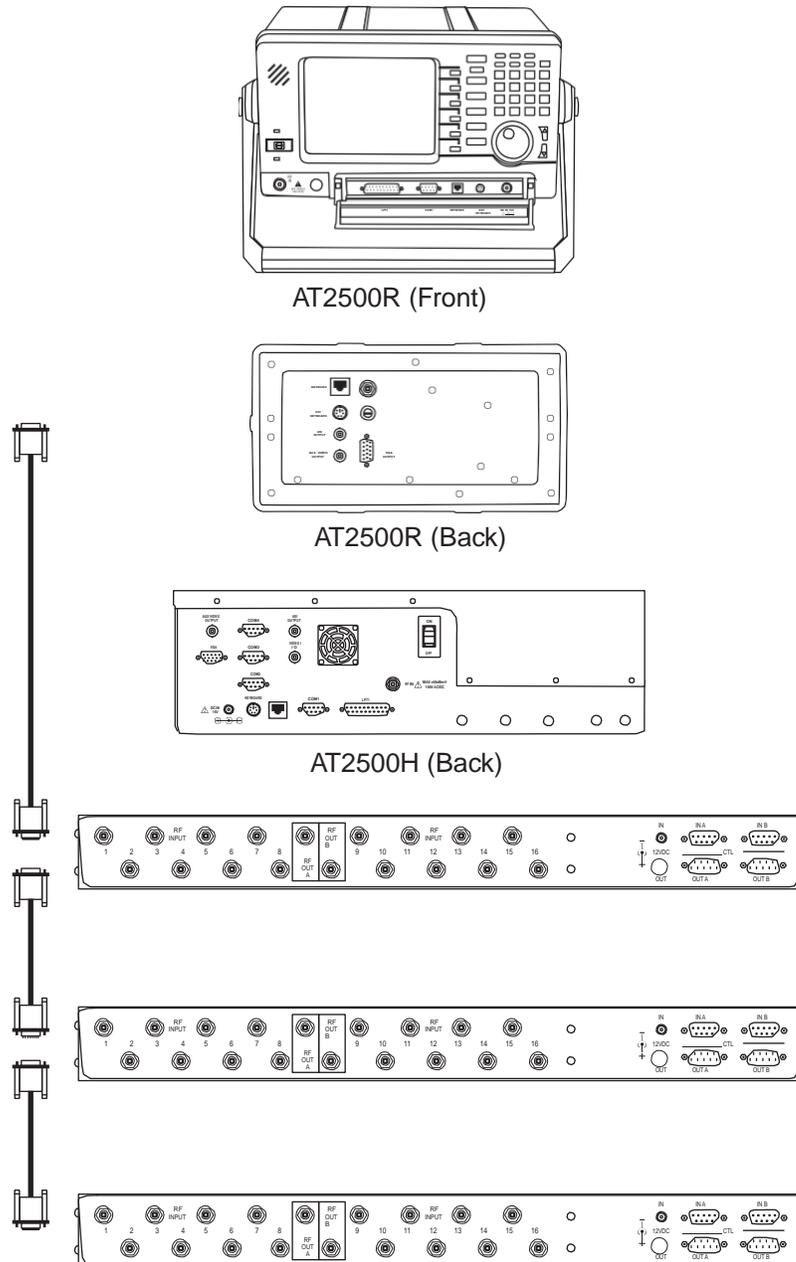

Figure 10-2: Cabling an Analyzer with AT1600 Series Switches 2-3
- If your analyzer is connected to a switch (see Figure 10-2), make sure that the switch is in REMOTE mode.